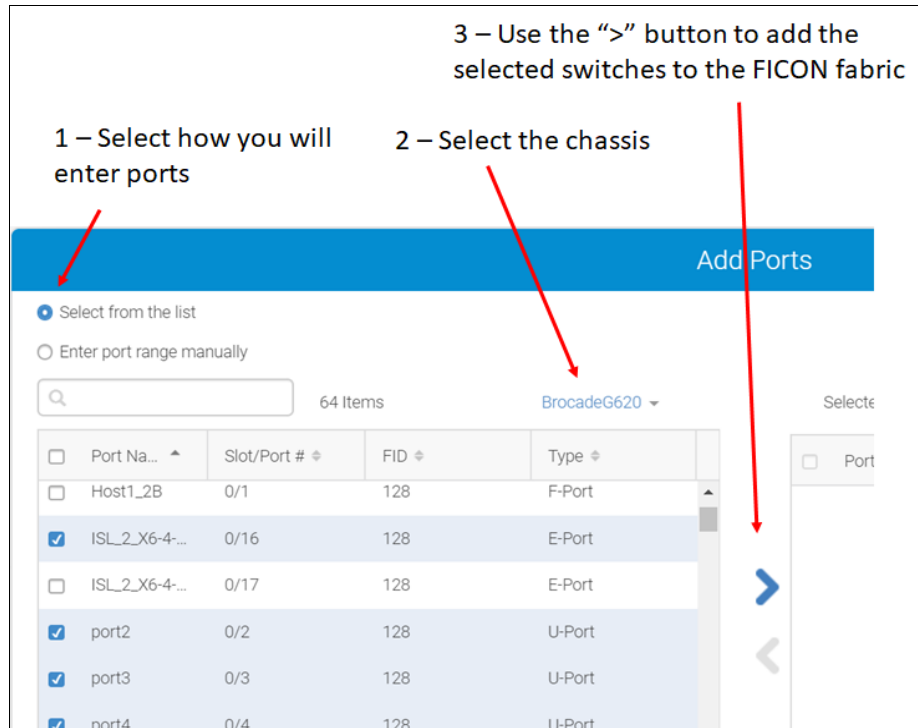

Figure 6-16 Selecting the port to add
b. Set the Domain IDs for each switch in the fabric (see Figure 6-16 on page 122). The domain ID (DID) is the highest byte of the 2-byte link address. The recommended best practice is to make the DID match Switch ID in HCD.
- c. Add the ports. Most administrators click the **Slot/Port #** column to sort by port number. The right side of this set up page (which is not shown in Figure 6-16), allows you to manually edit the port address (low byte of the 2-byte link address). By default, port addresses are assigned sequentially; therefore, the recommendation is to select the ports in the order that you want the link addresses to be. Typically, this order is the same order in which the slot or port is listed.